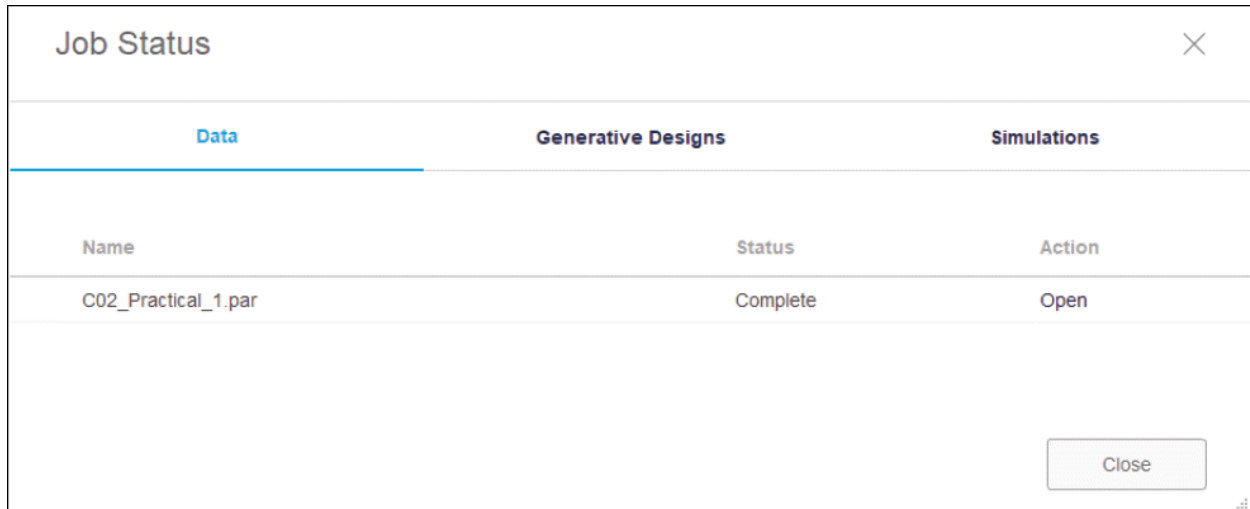

Figure-14. Job Status dialog box
- Select desired file and click on the **Open** button. The file will be displayed in the application window. If you have selected the file of different format from native format then the **Job Status** dialog box will be displayed notifying you the status of file import; refer to Figure-14.